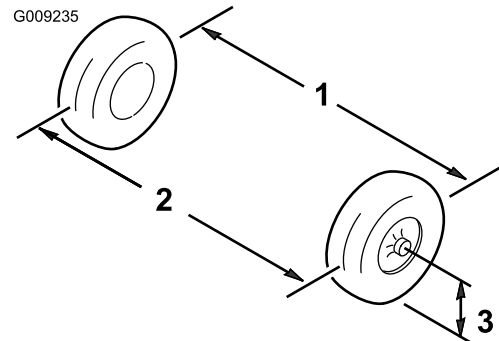

Figure 60
1. Measure the distance between both of the front tires at the axle height at both the front and rear of the front tires (Figure 60).